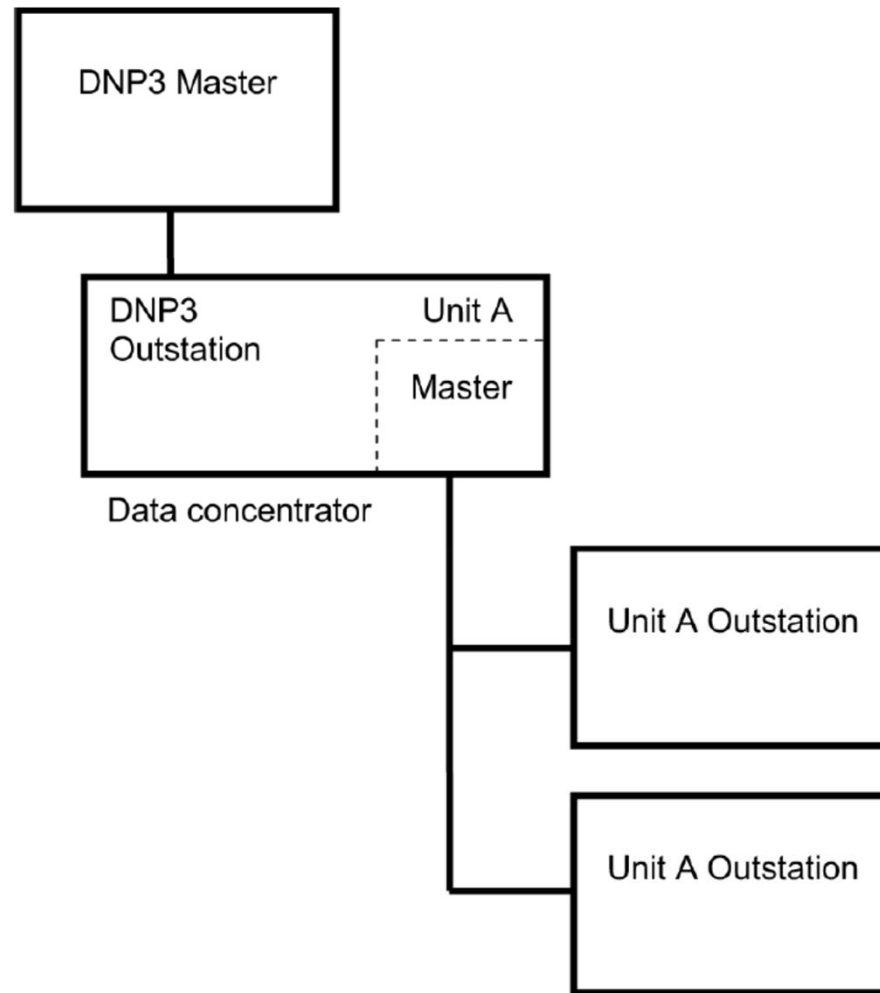

Figure 1-5. DNP3 example usage
- **Figure 1-5** is an example of a **SCADA application, using DNP3** with a data concentrator in a hierarchical mode.